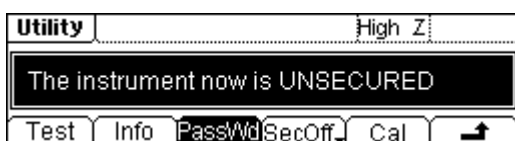

Figure 1-1 Input the Calibration Password
3. Press Cal (refer to Figure 1-1) to enter the calibration starting menu.